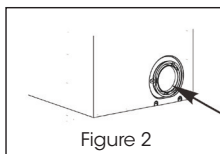

Figure 2
- Use vacuum cleaner to insert it into the exhaust pipe at the back of the dryer to suck out the dust, thread debris and other substances inside (Figure 2)